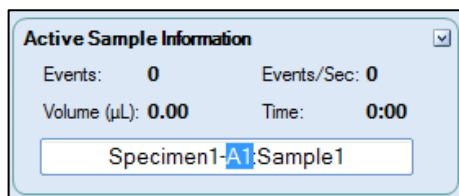

Figure 15. Modify Well ID in the Cytometer Control Panel
- In the **Active Sample Information** window of the Cytometer Control panel (Figure 15), click the sample name and modify the Well ID to **A2**.